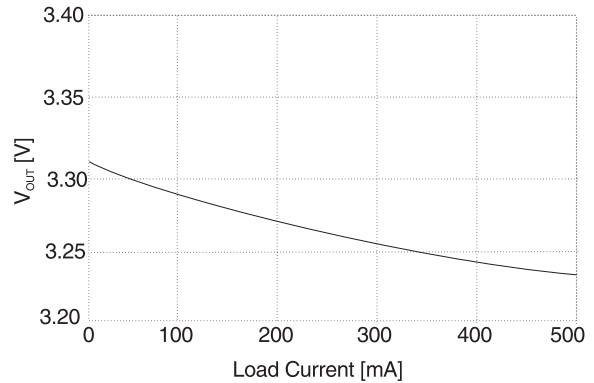

Figure 2. Load Regulation.
**Load Regulation** performance is shown from zero to maximum rated load in Figure 2. A change in load from 10% to 100% of rated, results in an output voltage change of less than 75mV. This translates into an effective output impedance of approximately 0.15 $\Omega$ .